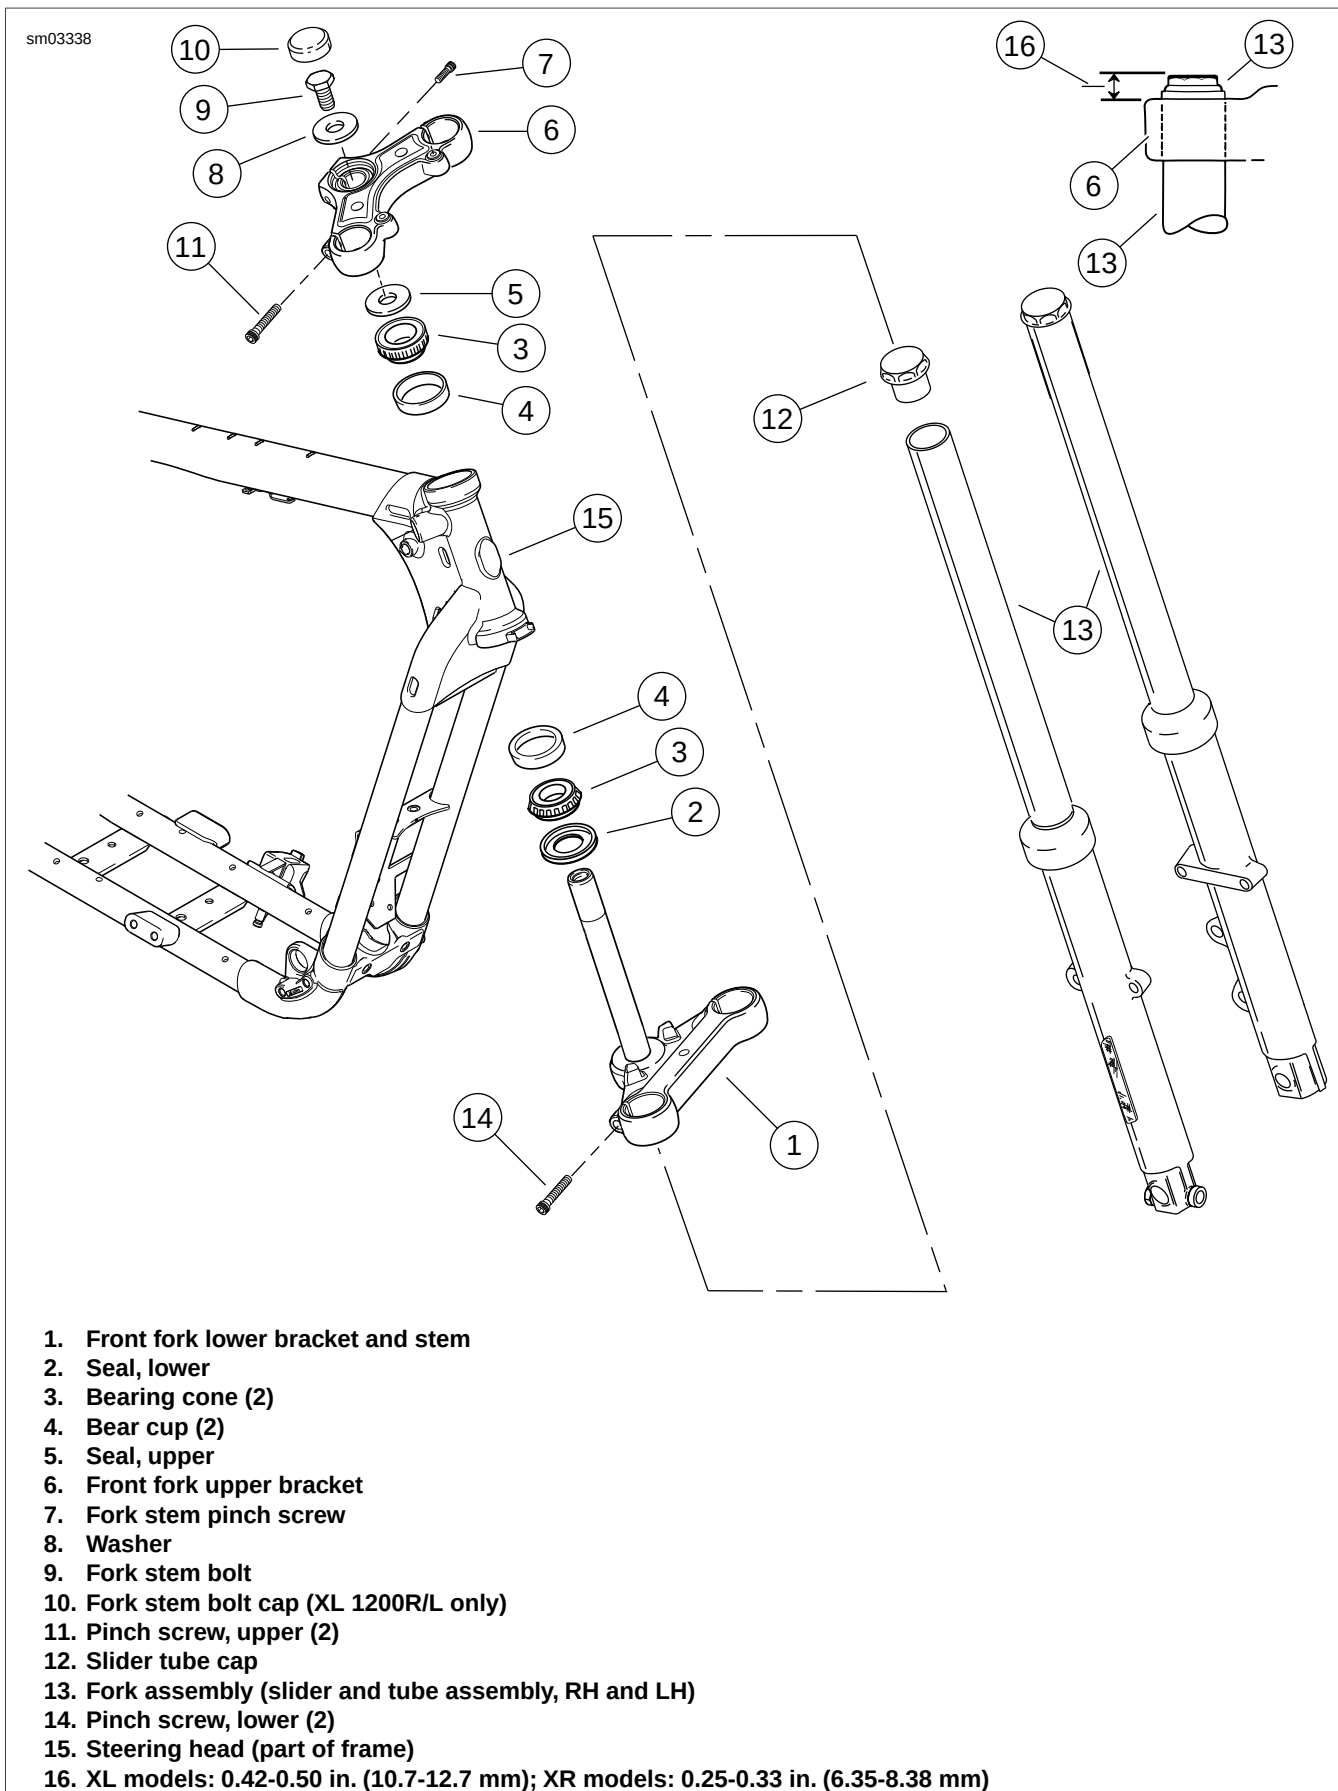

Figure 2-164. Front Fork Assembly: XL Models
4. See Figure 2-164. Loosen, but do not remove, slider tube caps (12).
5. Loosen front fork upper and lower bracket pinch screws (11 and 14). Remove fork assemblies (13) from fork brackets.
1. See Figure 2-164. Insert each fork assembly (13) through front fork lower (1) and upper (6) brackets. Position slider tubes so that top of each tube cap (12) extends 0.42-0.50